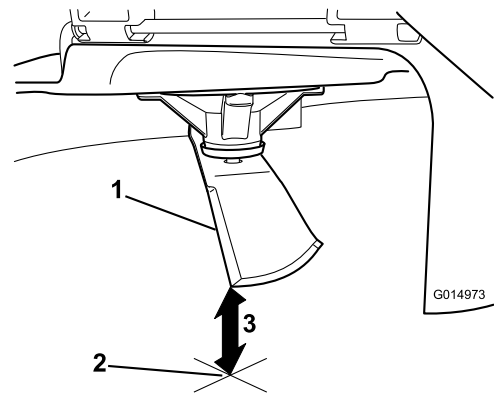

Figure 108
5. Measure from the tip of the blade to the flat surface (Figure 108).